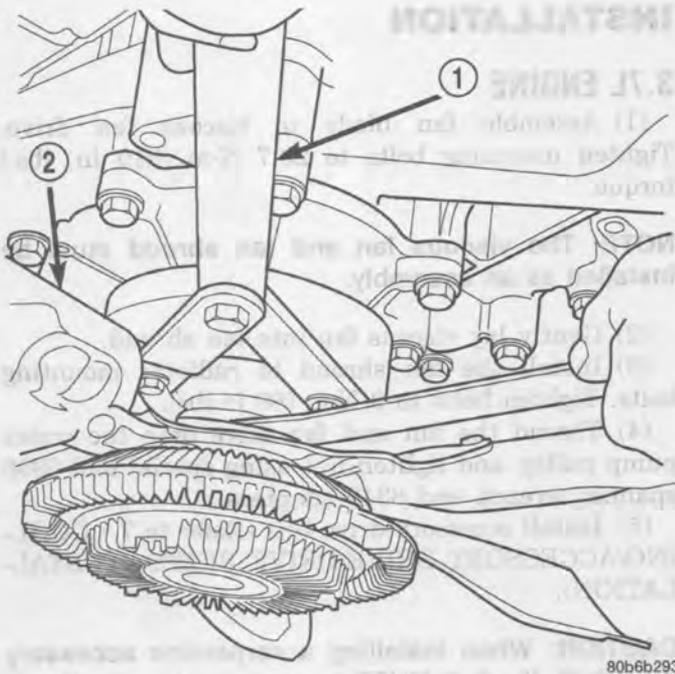

Fig. 35 Viscous Fan and Fan Drive 3.7L
(2) Remove the accessory drive belt (Refer to 7 - COOLING/ACCESSORY DRIVE/DRIVE BELTS - REMOVAL).
(3) Remove fan blade/viscous fan drive assembly from water pump using special tool 6958 spanner wrench and 8346 adapters, by turning mounting nut counterclockwise as viewed from front (Fig. 35). Threads on viscous fan drive are **RIGHT HAND**.
(4) Do not attempt to remove fan/viscous fan drive assembly from vehicle at this time.
(5) Do not unbolt fan blade assembly from viscous fan drive at this time.
(6) Remove fan shroud to radiator bolts.
(7) Remove fan shroud and fan blade/viscous fan drive assembly as a complete unit from vehicle.
(8) After removing fan blade/viscous fan drive assembly, **do not** place viscous fan drive in horizontal position. If stored horizontally, silicone fluid in the viscous fan drive could drain into its bearing assembly and contaminate lubricant.